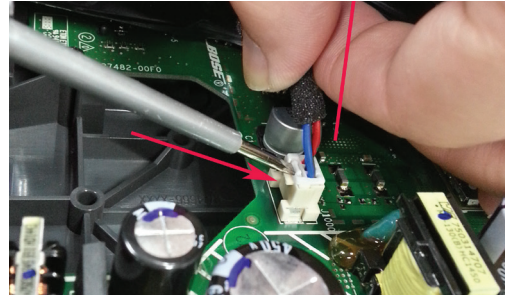

Figure 23. Main PCB, Transducer Cable
5.6 Figure 23. Detach the transducer cable from the main PCB.